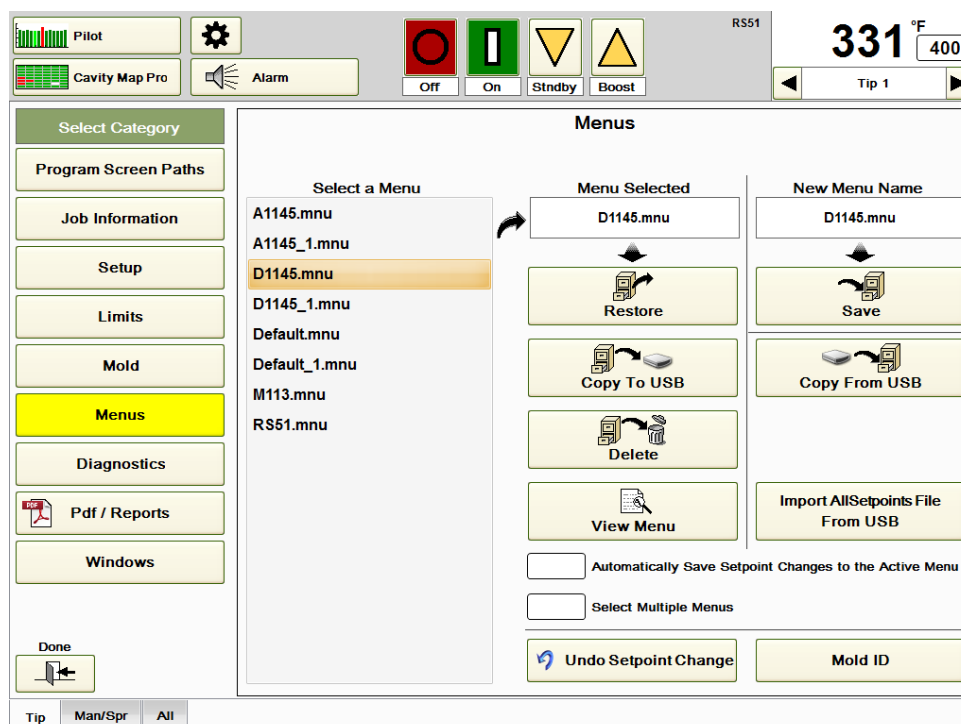

Figure 17a Menus
A menu is a file that contains a collection of zone setpoints, group settings and graph settings for all groups. Menus may be thought of as recipes for certain tools or applications. A menu includes every setting available. A user may want to set up different menus for different tools, different days (August-1.mnu), tool tests or specific part runoffs. Tool graphics are also associated with Menus. Menu should be saved once the setpoints and information have been entered on the HPS-C-PRO⁺ screens for a specific tool. The HPS-C-PRO⁺ will save each menu for future use. When the **Menu** button is pressed, the screen in Figure 17a appears. An Operator, Supervisor or Engineer security level is required.
The menu name that is in effect is always shown in the upper right corner of the screen just left of the Setpoint box (RS51 in Figure 17a). A "+" sign next to the menu name is displayed whenever a setpoint has been changed since the menu was last saved. If it is desirable to automatically save setpoint changes in the menu, select **Automatically Save Setpoint Changes to the Active Menu**.
Note that there are two menus shown in Figure 17a that include the word "Default". The **Default.mnu** is the current collection of all setpoints and settings being used by the HPS-C-PRO⁺. Every time a setpoint or setting is changed, a new Default.mnu menu is automatically created by the HPS-C-PRO⁺. Anytime the unit is turned on, the Default.mnu settings are in effect until the user selects a different menu. The previous menu is then automatically saved and named **Default_1.mnu**. Anytime a menu is saved with an
- 1) Press the blank area under **New Menu Name** in Figure 17a.